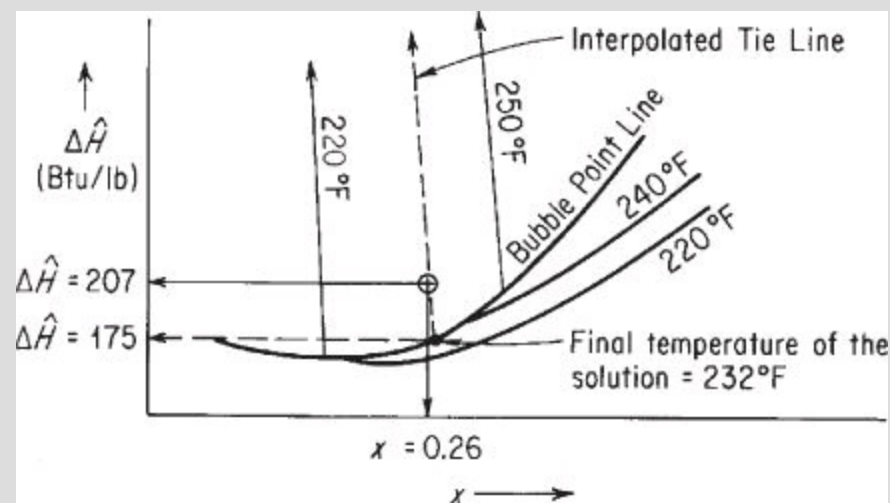

Figure E13.3
On the enthalpy-concentration chart for NaOH-H₂O, for a 26% NaOH solution with an enthalpy of 207 Btu/lb, you would find that only a two-phase mixture of (1) saturated H₂O vapor and (2) NaOH-H₂O solution at the boiling point could exist. To get the fraction H₂O vapor, you have to make an additional energy (enthalpy) balance. By interpolation, draw the tie line through the point $x = 0.26$, $H = 207$ (make it parallel to the 220°F and 250°F tie lines). The final temperature of the tie line appears from Figure E13.3 to be 232°F; the enthalpy of the liquid at the bubble point at this temperature is about 175 Btu/lb. The enthalpy of the saturated water vapor (no NaOH is in the vapor phase) from the steam tables at 232°F is 1158 Btu/lb. Let x = pounds of H₂O evaporated.